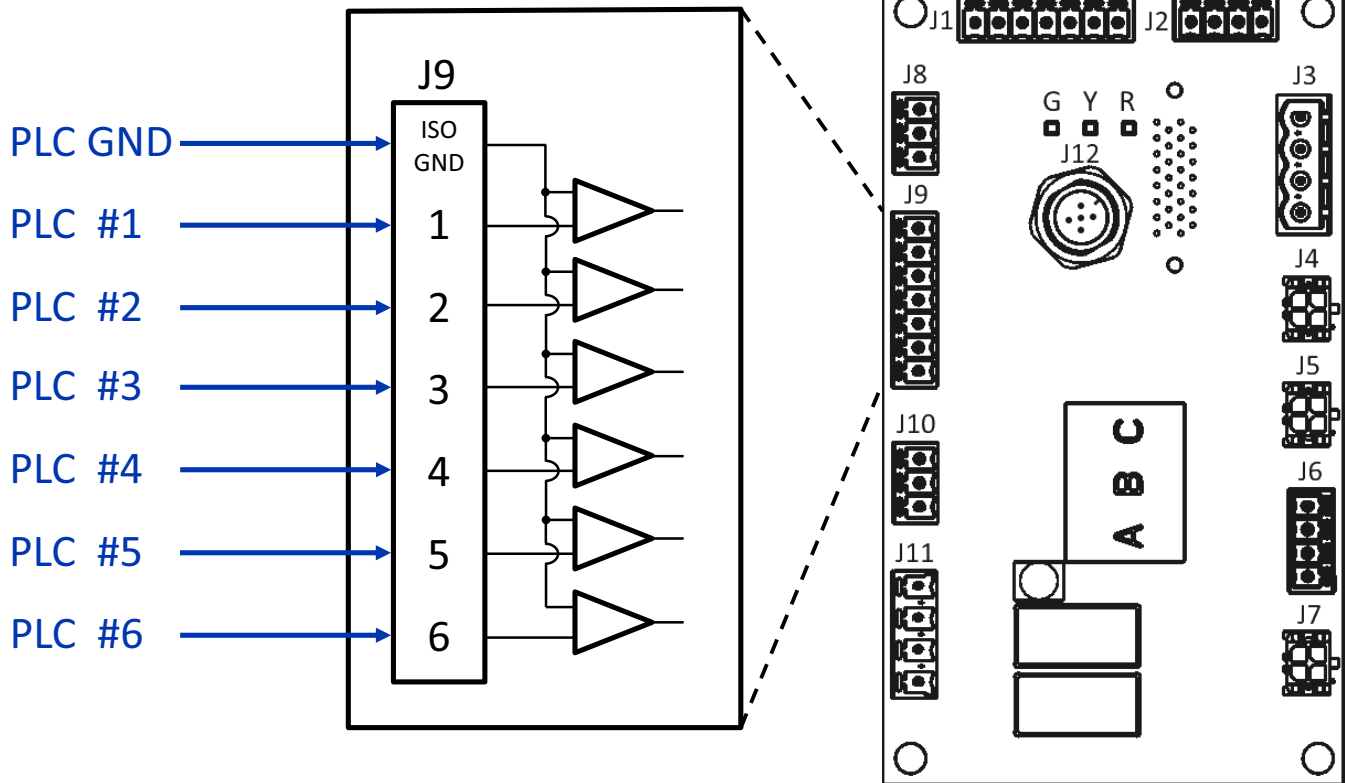

FIG. 13: Digital Inputs Wiring (J9)
- **Digital Inputs Wiring (0–30 VDC)**, page 22. See FIG. 13 for reference.